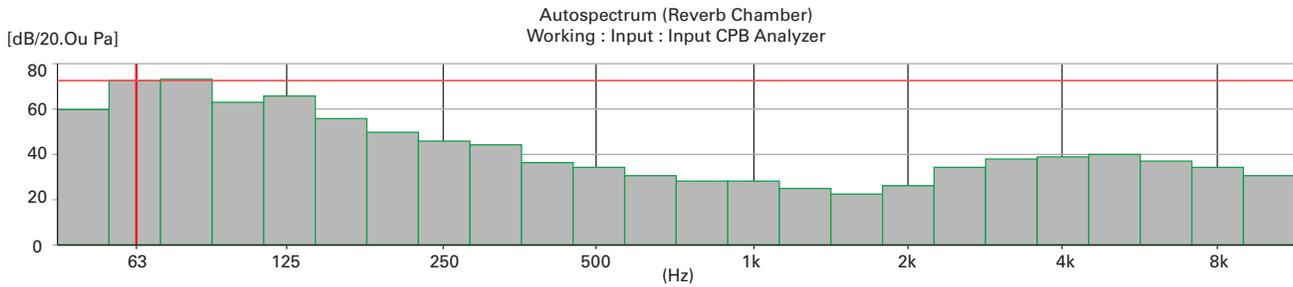

Figure 5: Sound Attenuation Modeling
Choosing a 35 dBA sound level target for this building example has the advantage of being easily measured during the commissioning and operation of the building. However, the dBA sound pressure scale is not a robust measurement system. It is quite easy to have two spaces, both at 35 dBA, where one space is satisfactory and the other is not. Using a Noise Control (NC) rating system is more robust but harder to measure later on (**Figure 5**).